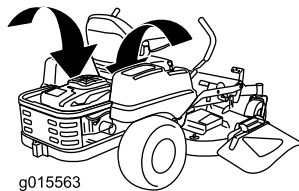
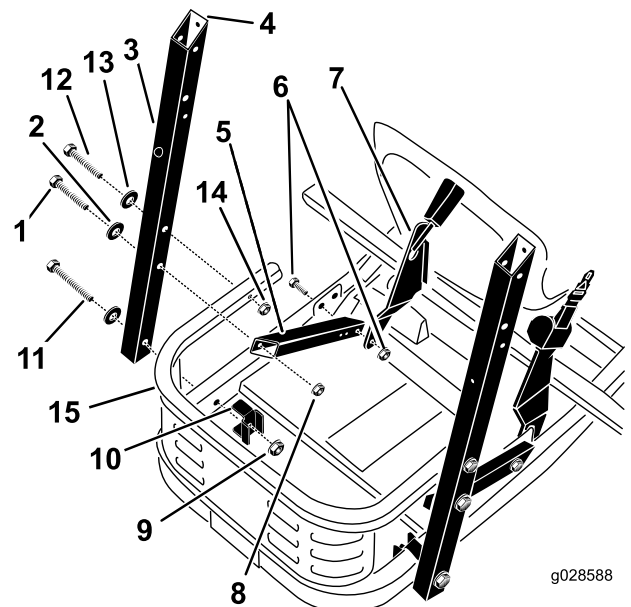
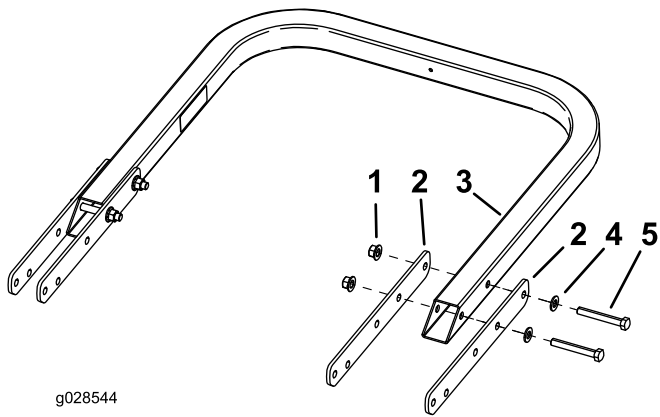
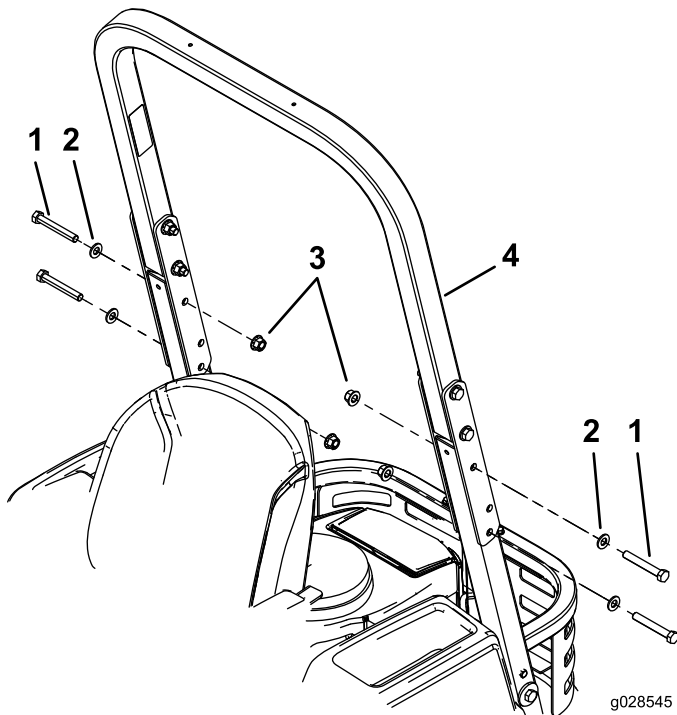

Figure 5
Figure 6
Figure 7
Figure 8
1. Locate the factory installed brace attached to the frame between the engine and the rear wheel (see Figure 5 and Figure 6).
2. Loosen the locknut that secures the brace to the frame. Stop when the brace swings freely (Figure 6).
3. Attach the rollbar support to the frame and the brace to the rollbar support as shown in Figure 6. Leave the bolts loose enough that the parts are free to shift around.
4. Attach the rollbar support to the engine guard as shown in Figure 6.
Assemble the ROPS plates to the rollbar as shown in Figure 7. Leave the bolts loose enough that the parts are free to shift around.
2. Attach the rollbar to the rollbar supports as shown in Figure 8. Leave the bolts loose.
1. Tighten the fasteners in the order specified in the following table. Figure 6, Figure 7, and Figure 8 will help identify the parts.